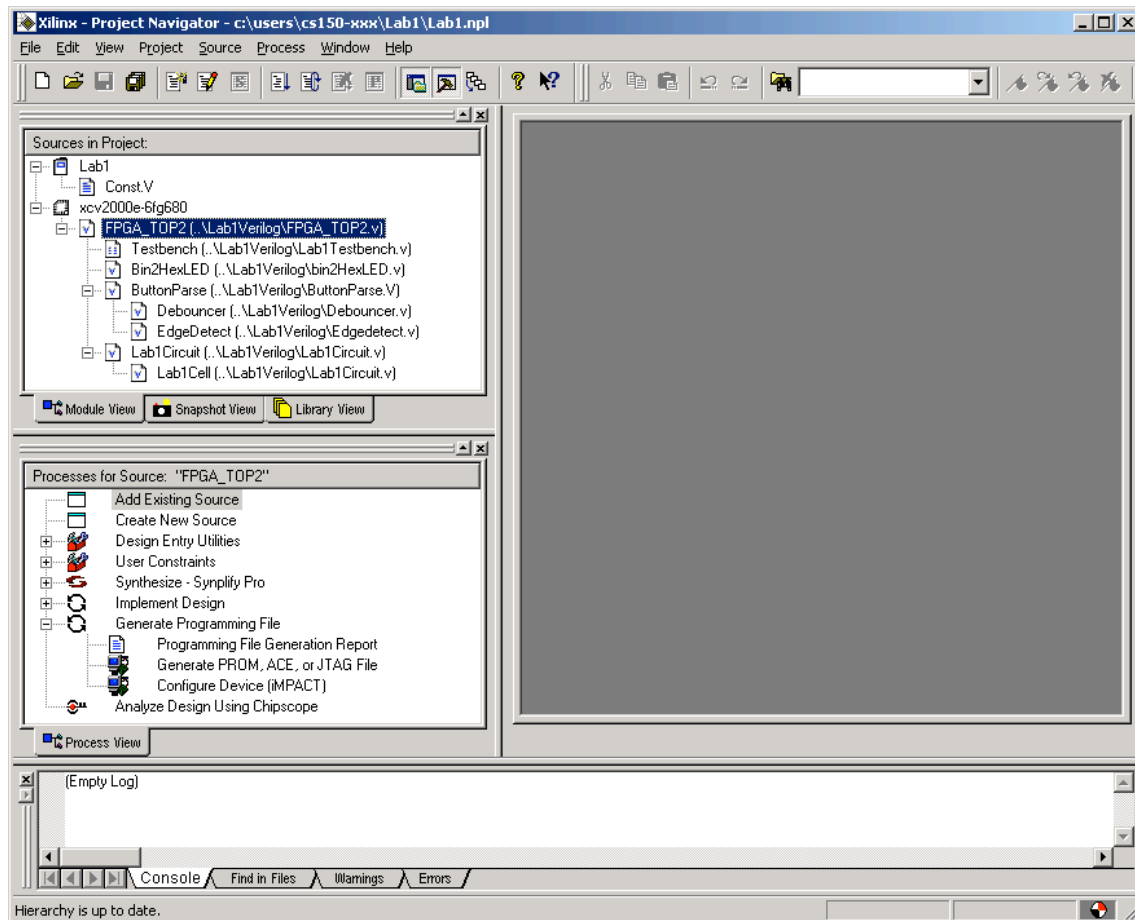

Figure 2: A Complete Project
9. You should now have a Project Navigator project, which looks like Figure 2, below.
The Project Navigator Window as shown in Figure 2, above, will allow you to manage your files and invoke the various CAD tools from a central location. Do not depend on Project Navigator for everything; complex testbenches may require manual creation of ModelSim projects, just as you should manage your files from Windows Explorer.